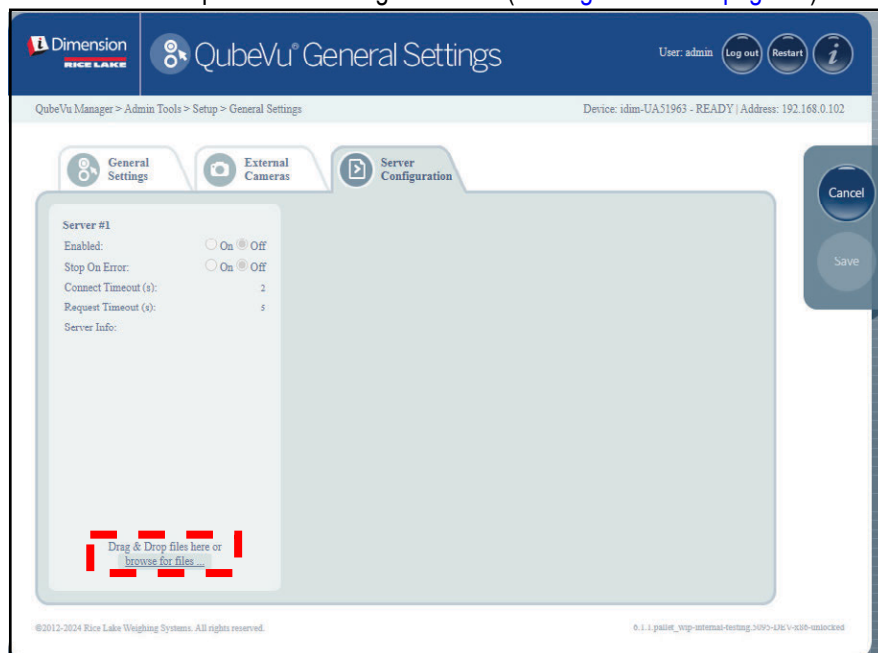

Figure 5-11. Server Configuration Tab
- Select **browse for files...** to pick server configuration file (see Figure 5-11 on page 28).